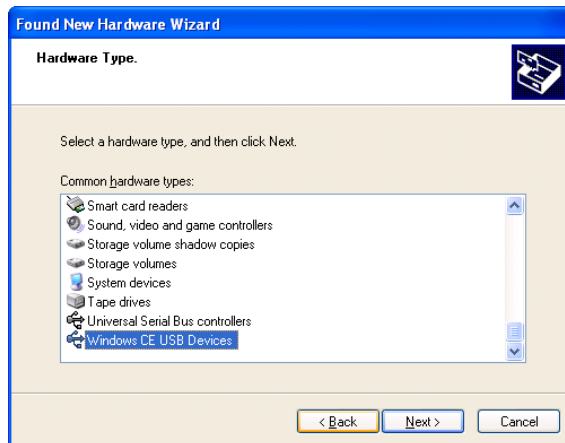

Figure 5.12
6. Choose **Windows CE USB Devices** icon (see Figure 5.12).